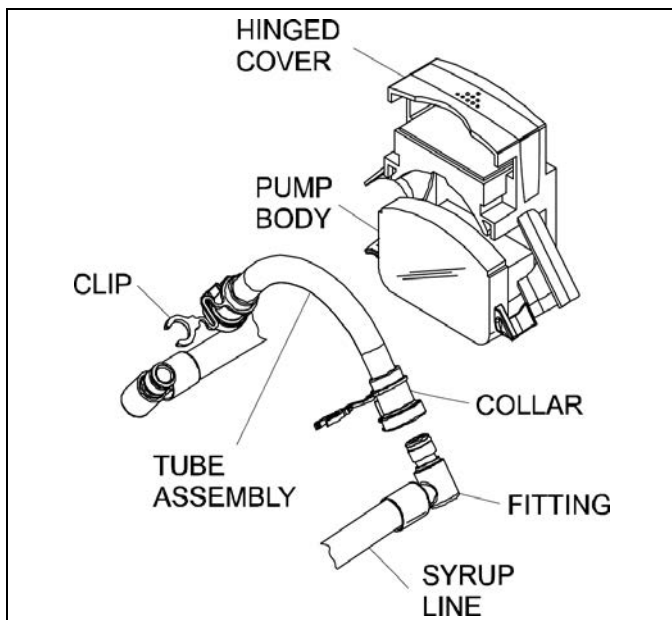

Figure 6-128
- Grasp the pump tube by both ends and remove it from the pump body. (See Figure 6-128.)